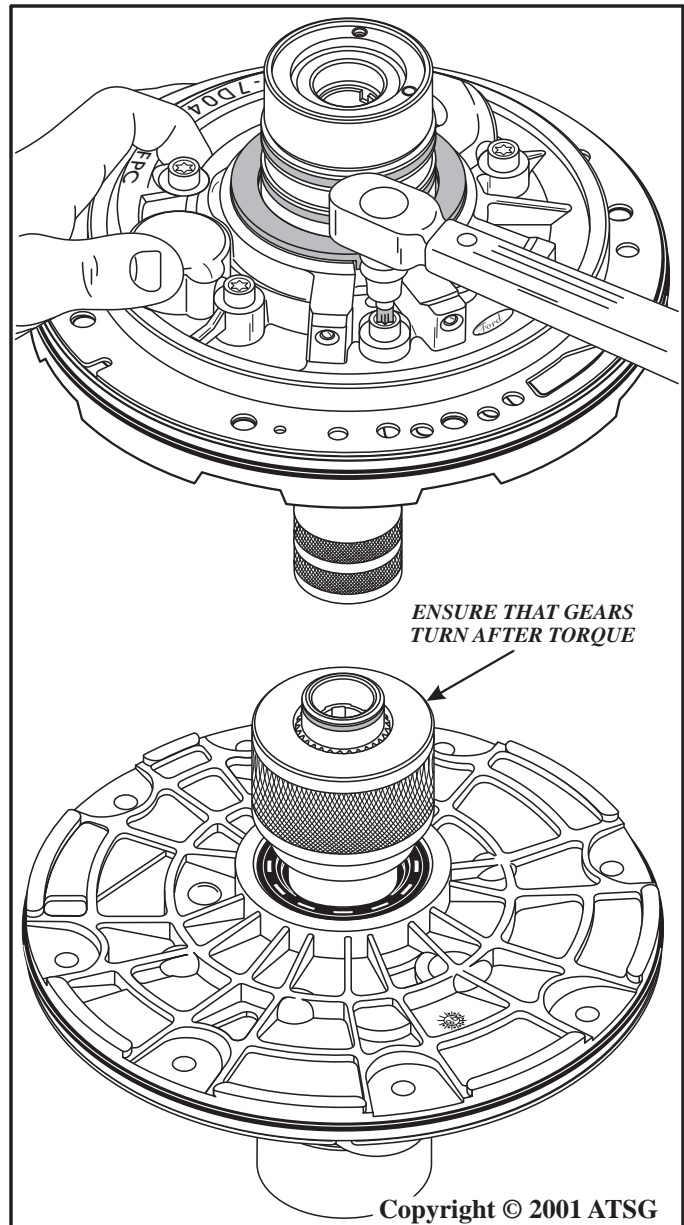

Figure 62
18. With the alignment tool in place torque all six bolts in a star pattern to 18 ft.lb. as shown in Figure 62.
19. Remove the alignment tool and ensure that the pump gears will turn after they are torqued, as shown in Figure 62.